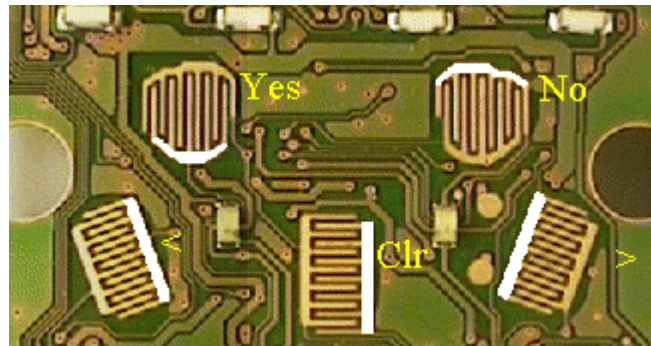

Fig. 6.10
- If the phone still doesn't consume any current, measure the resistance from the unmarked side of the "No" keypad (fig. 6.10) to V702 pin 2 (fig. 6.3, ~0 ohms) and from V702 pin 3 to N702 pin 3 (fig. 6.3, ~0 ohms).